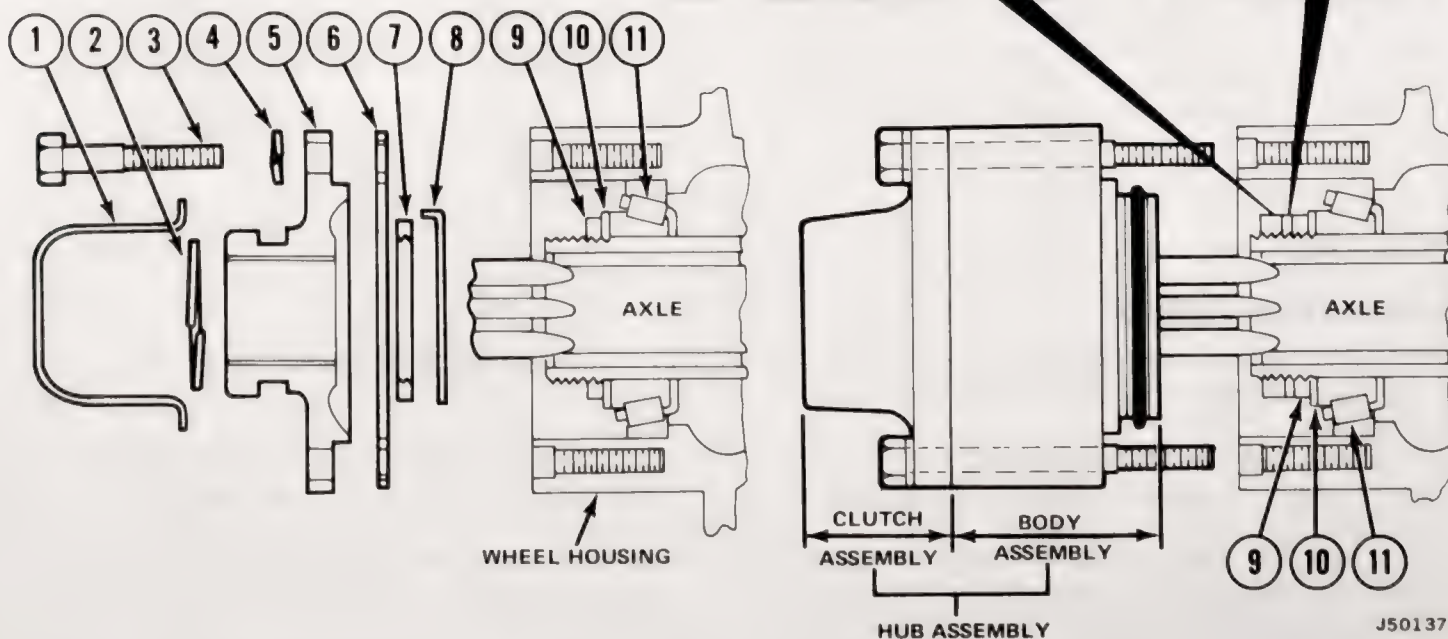

Fig. 7-5 Lock-O-Matic Hubs—CJ Models
- (1) Remove dust cap (fig. 7-5).
- (2) Remove snap ring.
- (3) Remove capscrews and lockwashers securing flange to wheelhousing.
- (4) Remove flange and gasket.
- (5) Remove outer bearing locknut and outer bearing lockwasher.